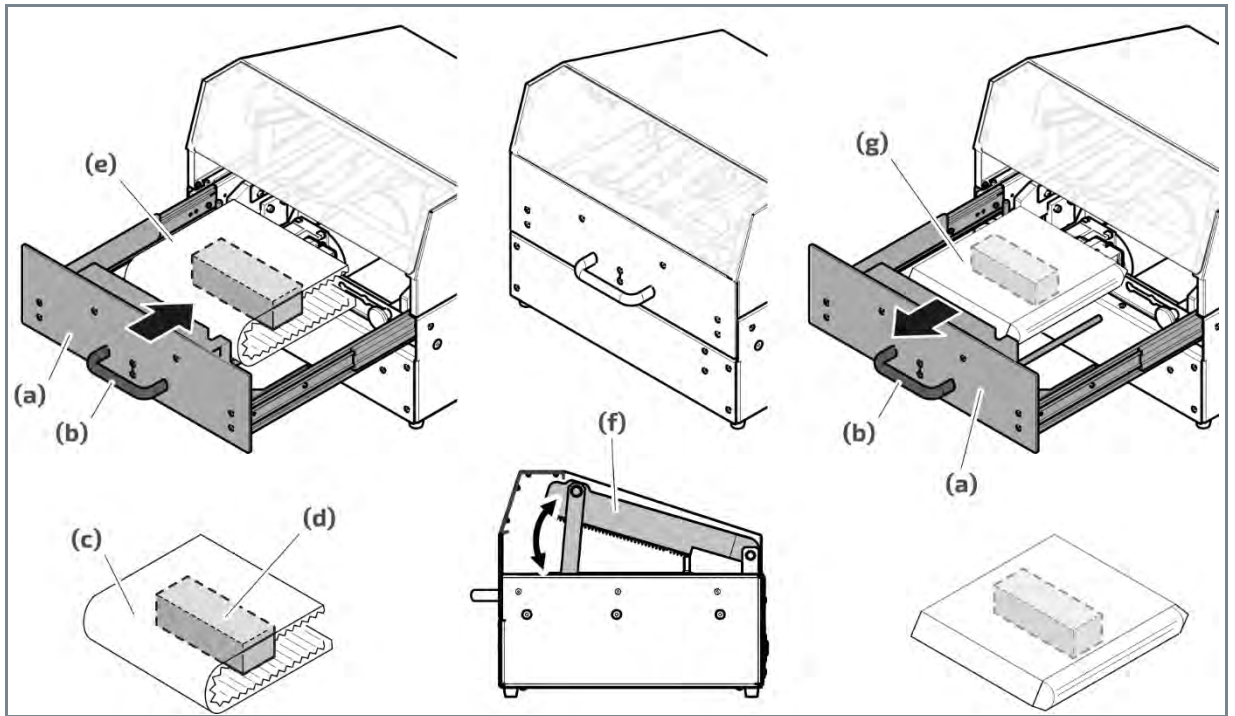

Fig. 6 Inserting and packaging the product
1. Use the handle **Fig. 6 (b)** to pull the drawer **Fig. 6 (a)** completely out of the housing.
2. Make sure that the clamping bar is set to the correct blank size **Fig. 6 (d) (e) (f)**.
3. Place the product **Fig. 6 (d)** in the centre of the corresponding blank **Fig. 6 (c)**.
5. Place the package in the drawer **Fig. 6 (e)**.
- ↳ The packaging process is started by closing the drawer and the blank is closed by the clamping bars pressing together **Fig. 6 (f)**.
7. When the process is completed, the drawer **Fig. 6 (a)** can be completely pulled out using the handle **Fig. 6 (b)**.
- ↳ The finished package **Fig. 6 (g)** can be removed.